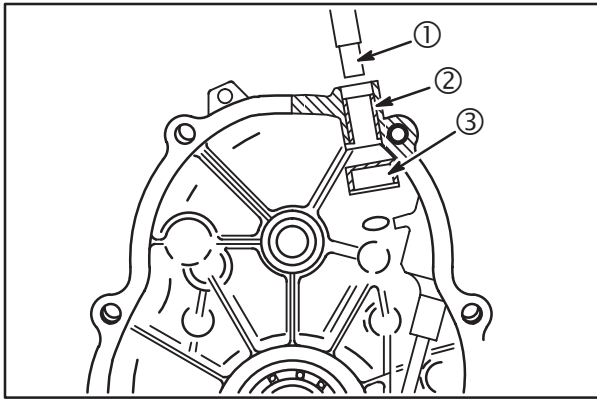

Fig. 9
1. Press out upper bushing (2) using Bushing Driver #19204 (1), **Fig. 9**.